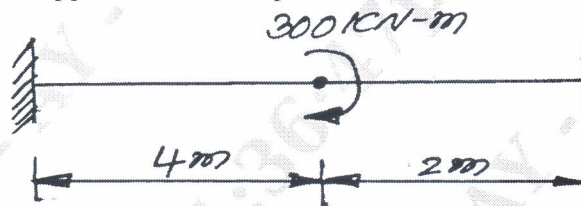

Fig Q5(b)
- b. A beam of span 6m and uniform flexural rigidity  $EI = 40000 \text{ kN-m}^2$  subjected to clockwise couple of 300 kN-m at a distance of 4m from left end as shown in Fig Q5(b). Find the deflection at the point of application of couple and internal loads.